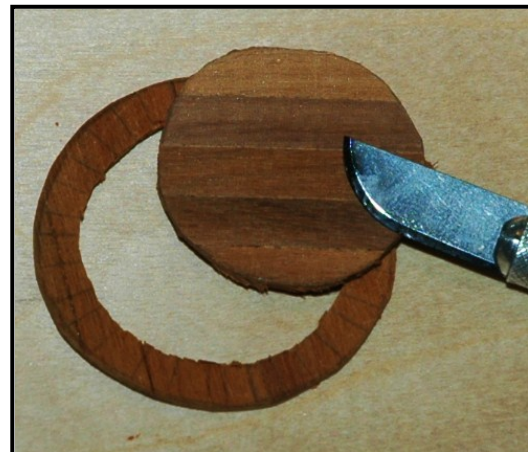

Figure 9: Creating the Ring
- Fig. 9 shows a mast heel from the Mordaunt *without the fid*.
After creating the correct number of turns, the end is inserted through the loop and pulled tightly underneath the top few turns (Fig. 9). Any conspicuous bulge is gently tapped down with a hammer. The ends are cut off.